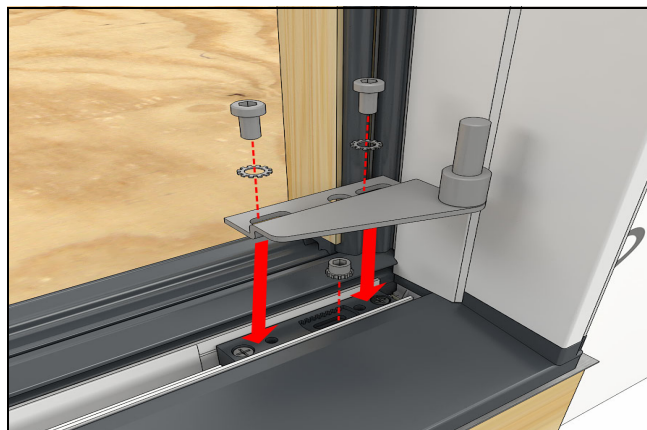
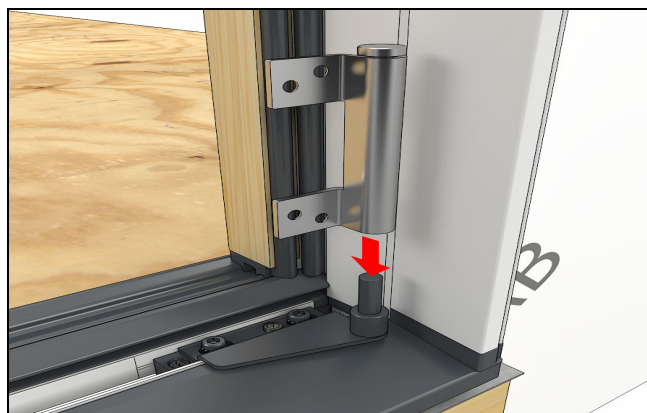

Figure 30
Figure 31
6. Assemble pivot in the middle of its adjustment range, tighten adjustment screws, and slide on hinge flag. See Figure 30 and Figure 31.